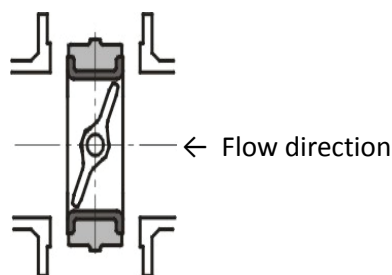
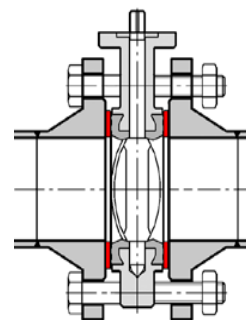

Fig. 2
Fig. 3
- Preparing installation & Positioning: When installed in a horizontal pipeline it is recommended that the butterfly valve is to be mounted with the valve stem in horizontal position, as such that the bottom of the disc will open in the direction of the flow. This prevents sludging of the flow and accumulation of dirt. (Fig. 2). Gasket: Do not use a gasket or grease. (Fig. 3).